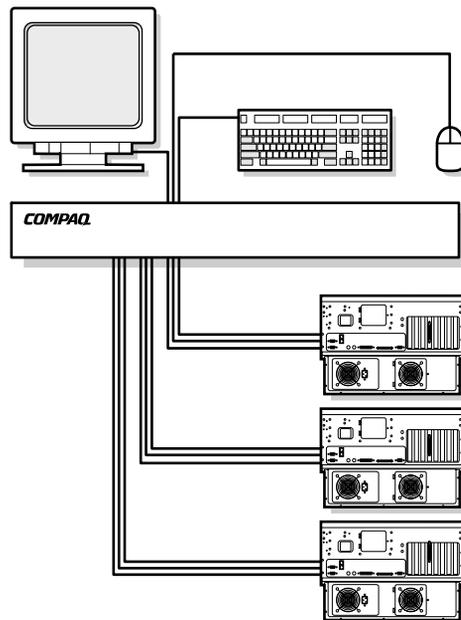

Figure 1-1. Single 4-Port unit
- A single switch box is used to connect four or eight servers. In this configuration, the keyboard, monitor, and mouse are connected directly to the unit by their respective cables. You can connect the Server Console Switch to servers located in the same or adjoining racks. See Figure 1-1.